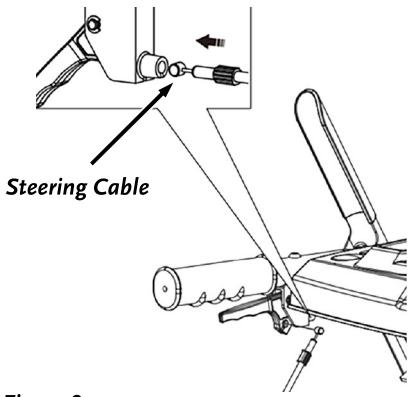

Figure 9
6. Install the Steering Cable Barrels into the Steering Handles (**Figure 9**).